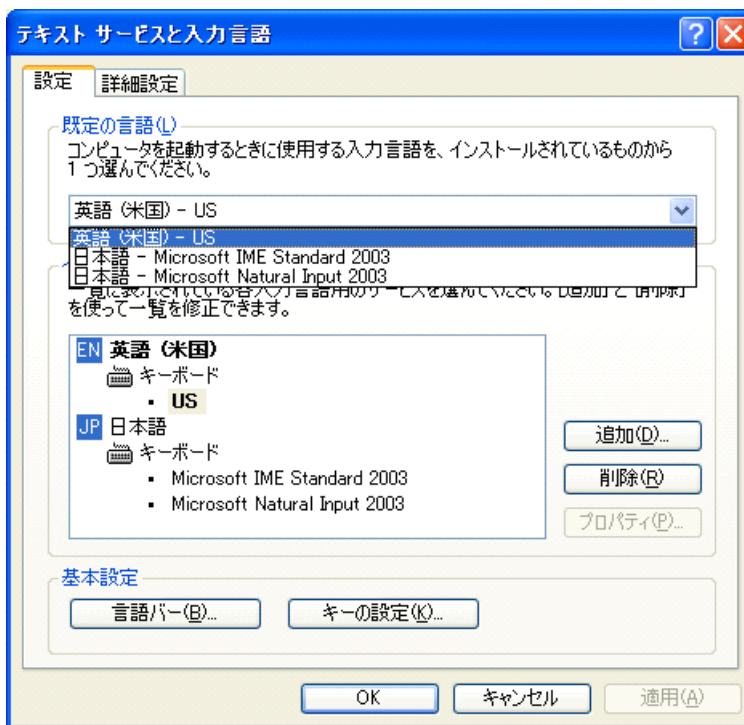

Figure 9-8 Setting English as default input
4. In the **Text services and input languages** dialog box, on the **Settings** tab, in the **Default input language** group box, select **English (United States - US)** [see Figure 9-8 on page 443].